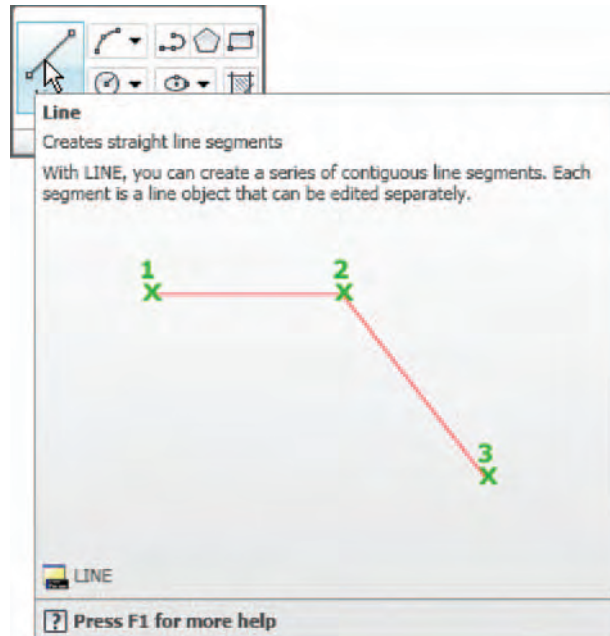
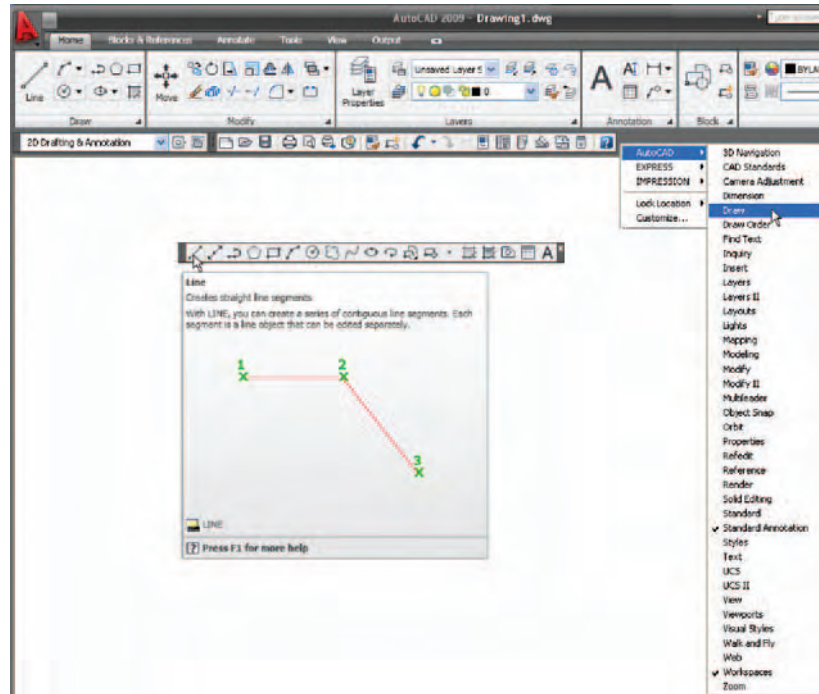

Fig. 2.1 The **Line** tool from the **Home/Draw** panel with its tooltip
Fig. 2.2 Line and its tooltip from the Draw toolbar
Illustrations throughout this chapter will be shown using the **2D Drafting & Annotation** workspace. However, methods of construction will be the same if the reader wishes to work in other workspaces. In this workspace, the **Home/Draw** panel is at the left-hand end of the **Ribbon**, and **Draw** tools can be selected from the panel as indicated by a *click* on the **Line** tool (Fig. 2.1). In this chapter all examples will show tools as selected from the **Home/Draw** panel. It is possible to select tools from the **Draw** toolbar. To place the **Draw** toolbar on screen when working in the **2D Drafting & Annotation** workspace, *right-click* in the area to the right of the **Standard Annotation** toolbar, followed by a *right-click* on **AUTOCAD** in the menu which appears, and selecting **Draw** from the list of toolbars. The **Line** tool with its tooltip is shown, selected from the **Draw** toolbar in Fig. 2.2.
Any toolbar can also be selected from the *right-click* menu in any toolbar on screen as shown in Fig. 2.2.
2. Left-click on the **Line** tool in the **Home/Draw** panel or **Draw** toolbar (Figs 2.1 and 2.2).